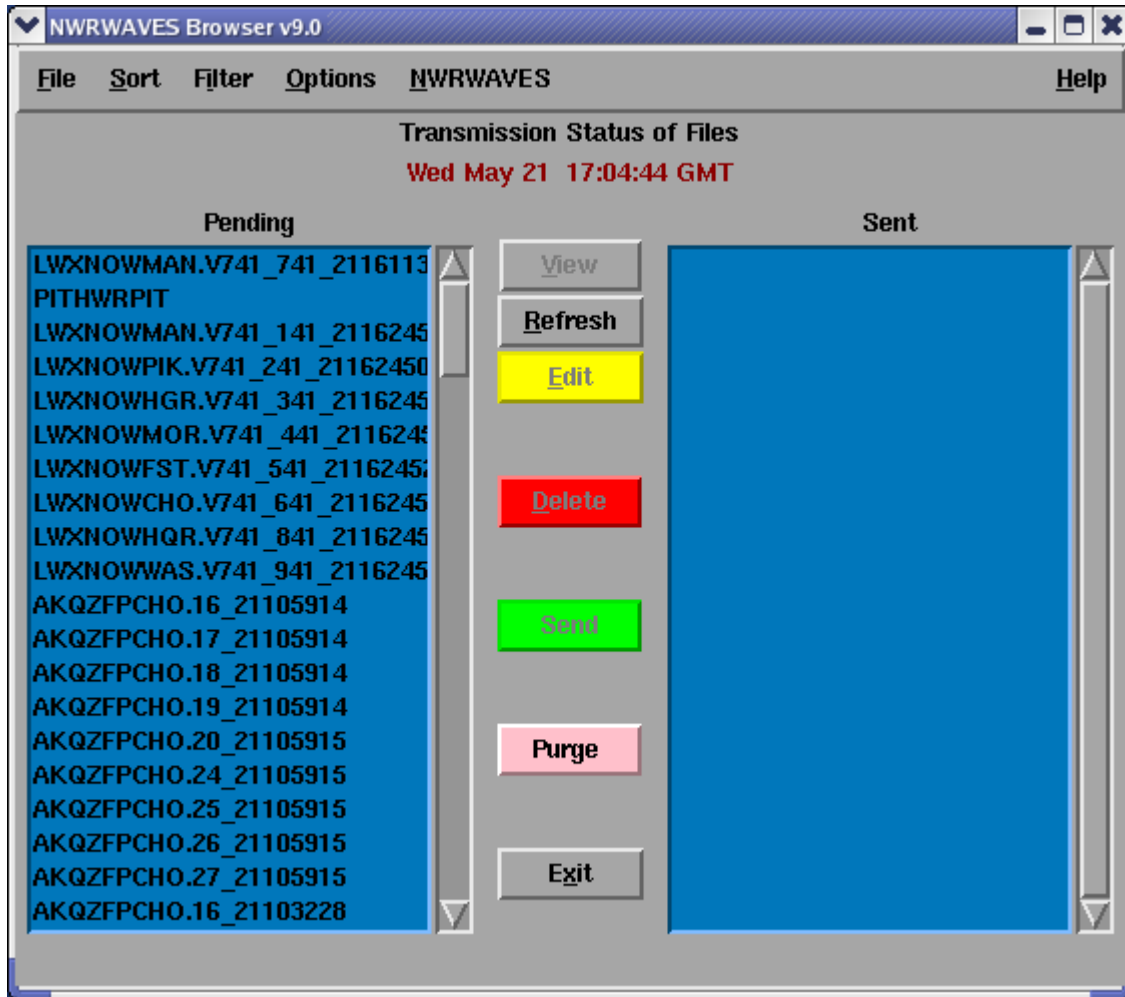

Figure 1 – NRRWAVES Browser
- A) Open the NWRBrowser on any AWIPS workstation. You will be greeted by the NWRWAVES Browser (Figure 1).